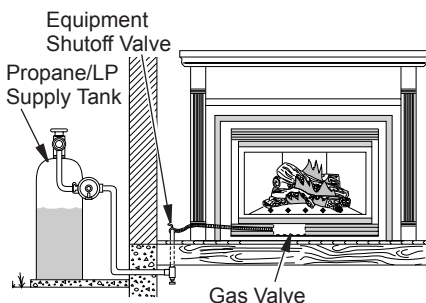
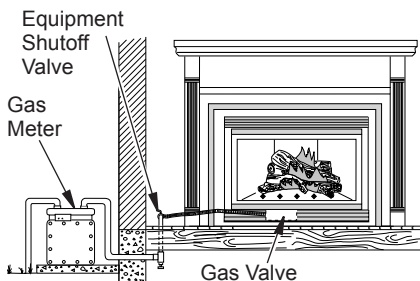

Figure 34 - Checking Gas Joints for
Figure 35 - Checking Gas Joints for
3. Check all joints from propane/LP supply tank for propane/LP or gas meter for natural gas to equipment shutoff valve (see Figure 34 or Figure 35). Apply noncorrosive leak detection fluid to all joints. Bubbles forming show a leak. Correct all leaks at once.
4. Check all joints from equipment shutoff valve to gas valve (see Figure 34 or Figure 35). Apply noncorrosive leak detection fluid to all joints. Bubbles forming show a leak. Correct all leaks at once.